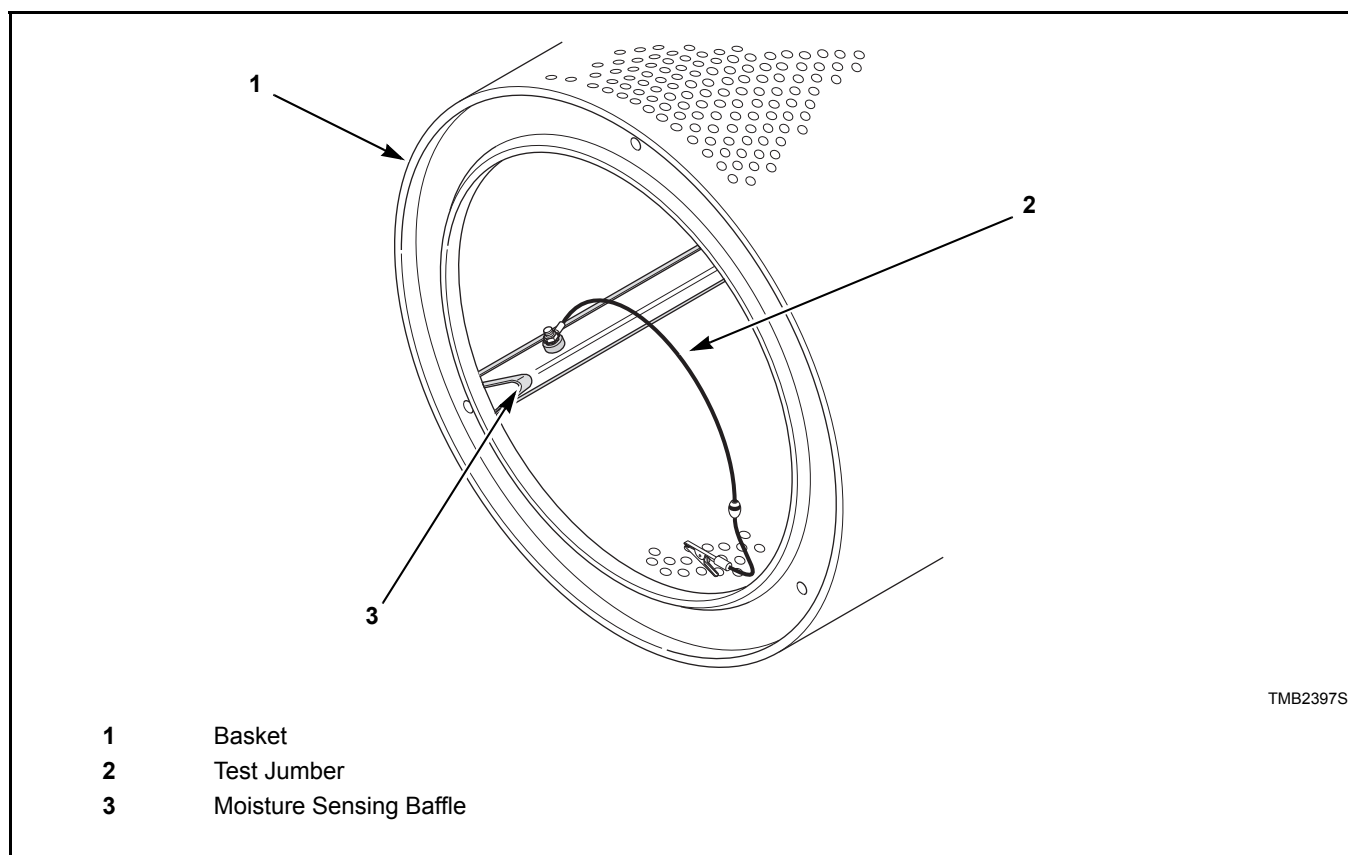

Figure 26
2. Insert ohm meter probes into pins 1 and 2 of the harness. If the metered value is infinite resistance, open load (OL), proceed to step 3. If not, proceed to *Paragraph 105*.
3. Create a direct short between machine basket and moisture sensing baffle/ground using test jumper (Refer to *Figure 26*). If metered value is less than 1 ohm, circuit is functioning properly; double-check machine configuration and cycle programming. If 1 ohm or greater, proceed to *Paragraph 105*.
1. Remove three (3) screws holding slip ring assembly to basket shaft.
4. Connect one ohm meter probe to the connector in the basket shaft. Connect the other ohm meter probe to the basket shaft itself. If the metered value is infinite resistance, open load (OL), proceed to Step 5. If not, remove machine basket and proceed to *Paragraph 108*.
5. Create a direct short between basket and moisture sensing baffle (Refer to *Figure 26*).
8. Connect the other ohm meter probe to one of the moisture sensing baffles (Refer to *Figure 26*). If the metered value is less than 1 ohm, proceed to Step 9. If 1 ohm or greater, proceed to *Paragraph 109*.